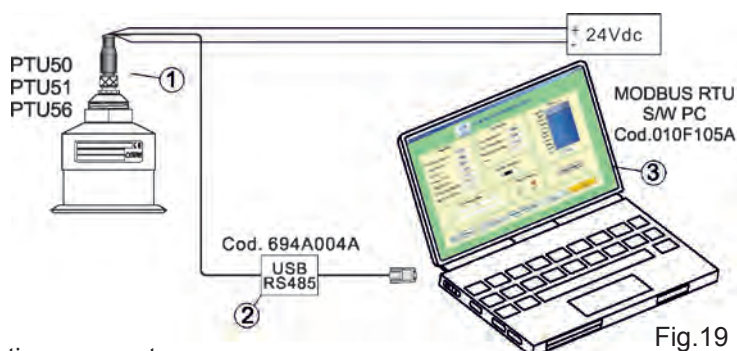

Fig.19
4.1.1 MODBUS RTU PC connection (fig.19)